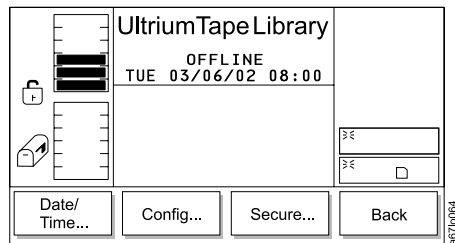

Figure 222. Utils Submenu
3. Press the button below the **Utils** softkey. The Utils Dialog displays (see Figure 222 on page 175).
6. Verify that the new settings are correct on the display, then press the button below the **OK** softkey to accept the new backlighting and audio settings. The Utils Submenu redisplay (see Figure 222).